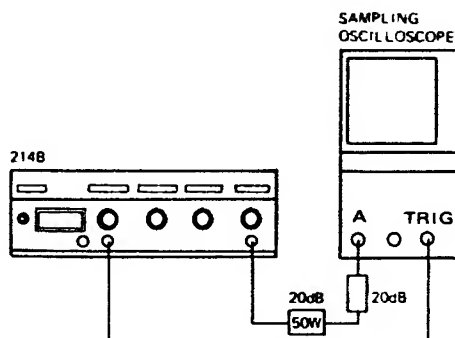

Figure 4-8
1. Connect equipment as shown in Figure 4-8 and set 214B controls as follows: